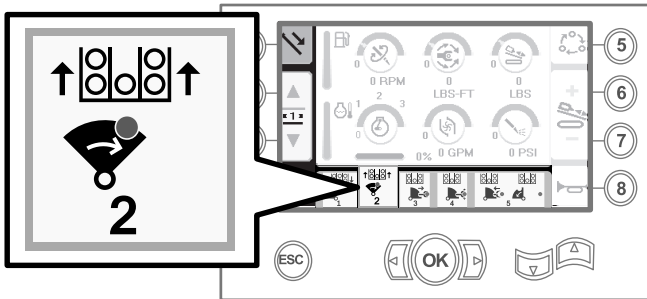

Figure 28
4. Release the rocker switch to proceed to the next step in the sequence (Figure 28).